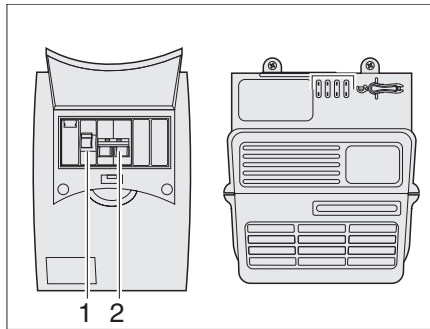

Fig. 100 230-V fuse box
The main fuse (Fig. 100,2) protects the 240 V input current with a max. of 10 A. In addition, a residual-current circuit-breaker (Fig. 100,1) is located in the fuse box.
- Switch the 240 V safety cut-out (see Fig. 100) and the main switch battery (see Fig. 94,9) on and off briefly in order to interrupt the current flow.